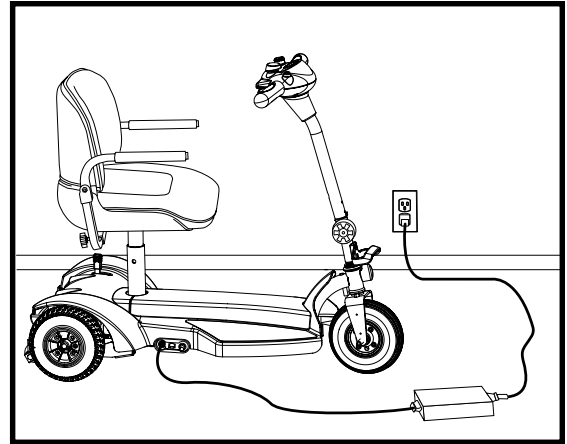

Figure 13. Charging The Batteries
1. Position your Travel Scooter close to a standard electrical outlet. **See figure 13.**